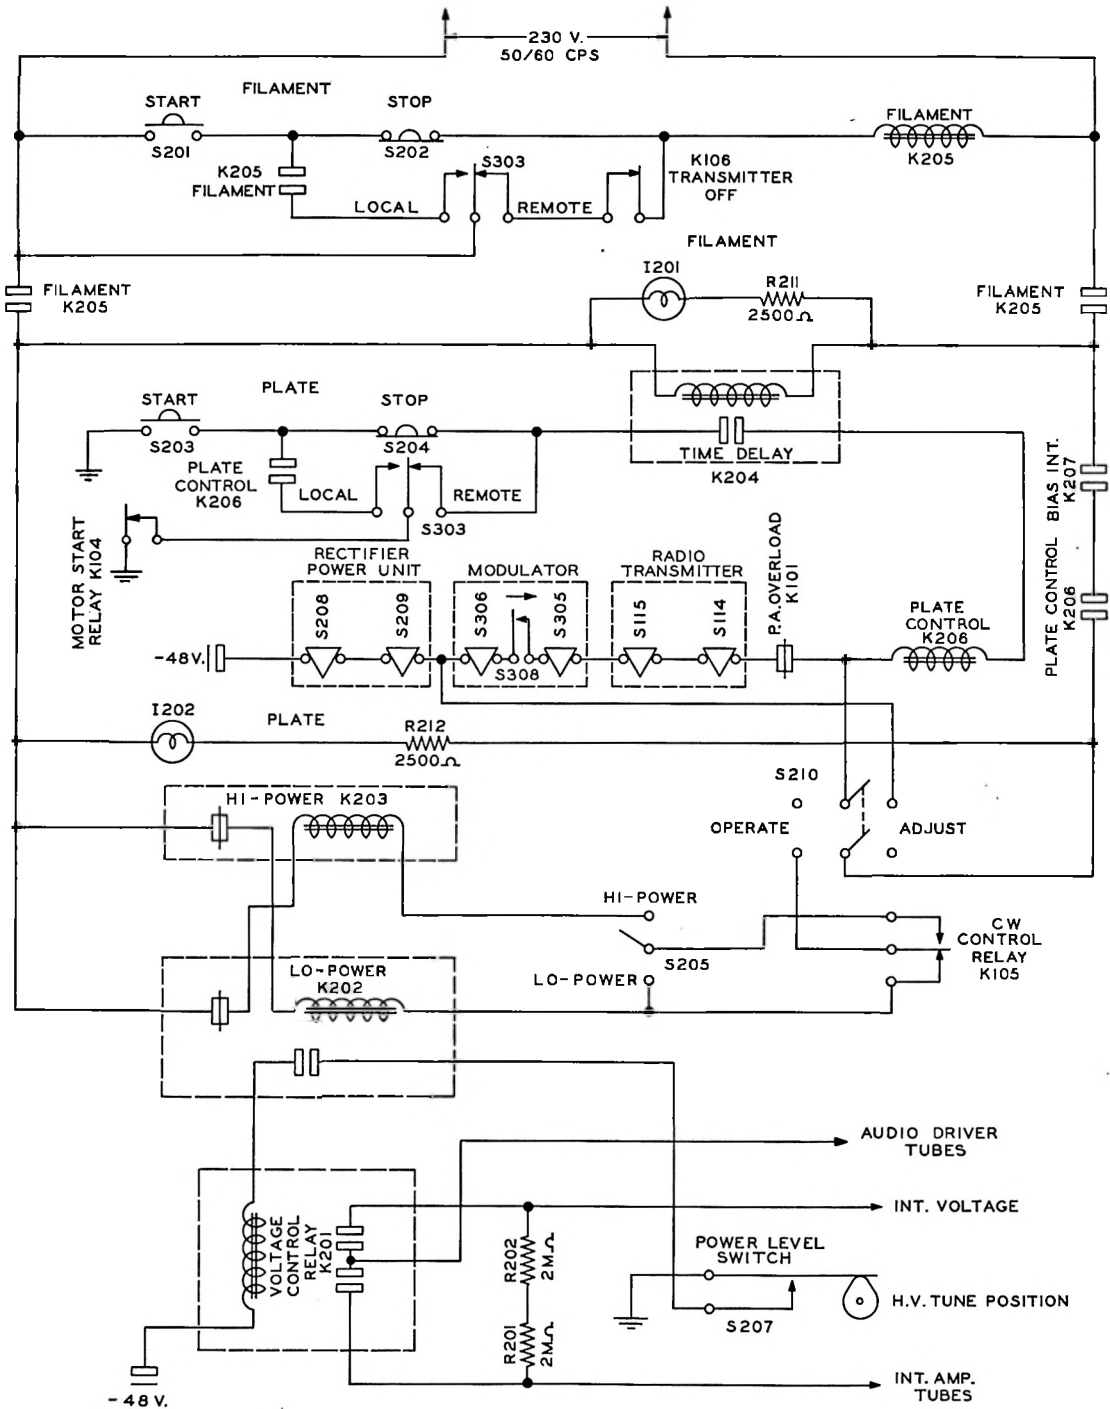

Figure 2. Power Control Circuits
2.2. POWER CONTROL CIRCUITS. Refer to figure 2. This transmitter has been designed for normal control from a remote position using the Collins Type 177G-10 or 177G-9 Remote Control Units. A key switch located on the speech amplifier unit panel permits transfer of power and control of emission from the remote control unit to the panel controls.
Operation of the LO-POWER relay breaks the energizing circuit for the HI-POWER relay and the normally open contacts close the circuit to the voltage control relay, K201. If the TUNE-OPERATE switch, S207, is in the H.V. TUNE position (as shown in figure 2) the energizing circuit for the voltage control relay will be broken. If the switch is operated to the OPERATE position, the voltage control relay will operate following the operation of the LO-POWER relay. Operation of relay K201 applies plate voltage to the audio driver tubes and shorts out resistors R201 and R202 to increase voltage that is applied to the intermediate amplifier tube plates.
To begin the sequence of power application, press the FILAMENT START switch, S201. The momentary closing of the circuit through switch S201 actuates the FILAMENT relay, K205. The FILAMENT relay is held operated by the circuit through the normally closed contacts of the FILAMENT STOP switch, S202, the contacts of the FILAMENT relay, and the normally open (as shown on figure 2) contacts of the LOCAL-REMOTE switch.
by dialing A1 (operates the CW control relay, K105) and the power level switch is in the HI-POWER position, the HI-POWER relay, K203, will be operated. High power can be used only with CW emission, no matter what position the power level switch is in, because the CW control relay must be operated if the circuit necessary for the energizing of the HI-POWER relay is to be completed. If the TUNE-OPERATE switch, S207, is in the OPERATE position (H.V. TUNE position shown in figure 2), the operation of the LO-POWER relay will complete the circuit necessary for the energizing of the voltage control relay K201. The operation of the voltage control relay shorts out resistors R201 and R202 to increase the voltage that is applied to the intermediate amplifier tube plates and applies plate voltage to the audio driver tubes.
When the TIME DELAY relay, K204, has operated, the PLATE CONTROL relay, K206, will be energized. Operation of the PLATE CONTROL relay energizes the PLATE pilot lamp, I202, and the bias rectifier plate transformer, T206. Application of plate voltage to the bias rectifiers energizes the BIAS INTERLOCK relay which when operated completes the circuit necessary to energize the low-voltage rectifier plate transformer, T205, and the circuit necessary to energize either the LO-POWER relay or the HI-POWER relay. (Refer to figure 2.) The operation of either of the plate power relays will energize the plate power transformer.